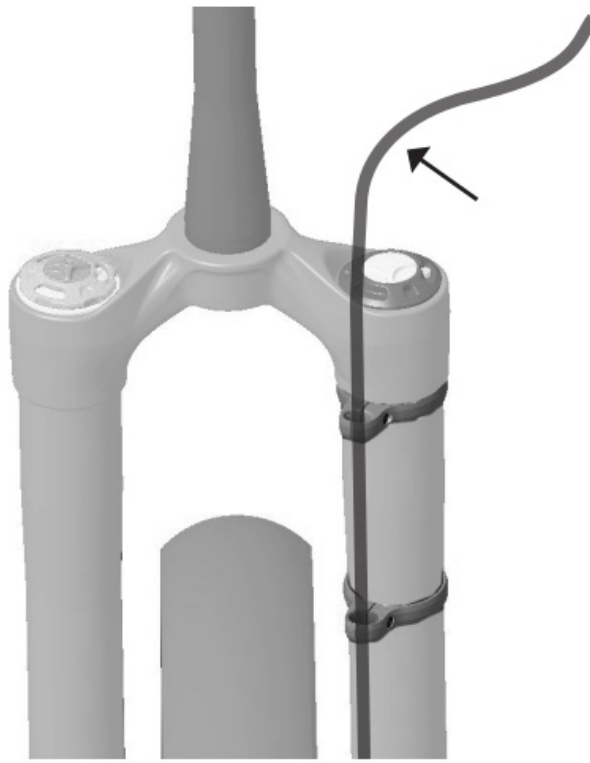
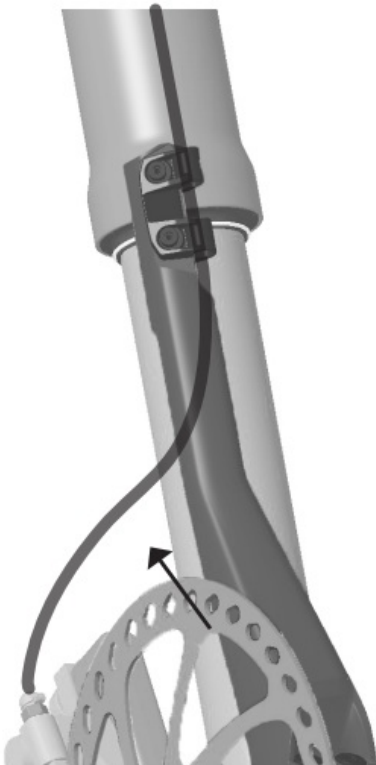

Figure 16: Sufficient hose length above upper brake hose guide
Figure 17: Full view of brake hose routing through brake hose guides and into mast
5. Verify the front brake hose length is sufficient above the upper brake hose guide to the brake lever (Figure 16). Verify there is a smooth arc in the brake hose between the brake hose clamp to the brake caliper (Figure 17). All sections of the brake hose must have an unrestricted path during the compression of the fork.